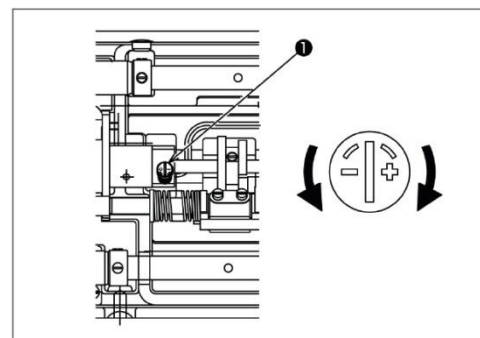

Fig.6
Turn screw (1) to adjust the oil quantity. Turning screw (1) in the „+“ direction increases the oil quantity, or in the „-“ direction decreases it. See fig.6. After adjusting the oil quantity with the screw, run the sewing machine idle for 30 seconds or more. Then, check the oil being splashed from the hook.